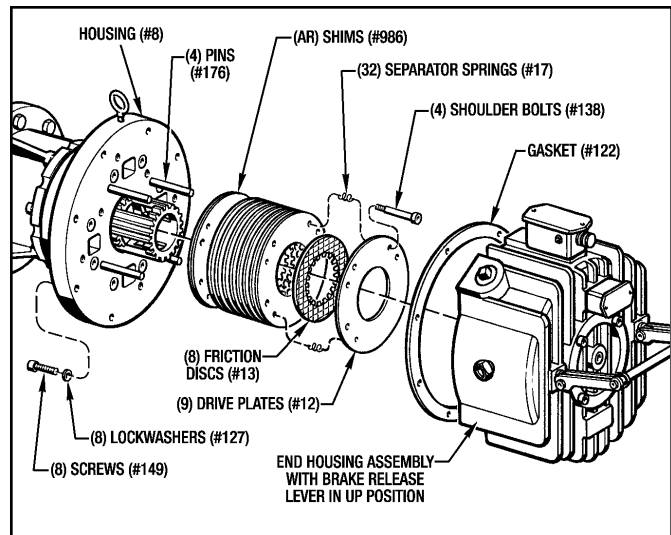

Figure 7.3 - Removing MSB12 Brake Stack
(See Figures 7.3, 7.4 and 8.2)
1. Remove the (8) Screws (#149) and (8) Lockwashers (#127) from the Housing (#8). Pull the End Housing Assembly away from the Housing (#8). Remove the Gasket (#122) and discard it.
2. Unscrew the (4) Shoulder Bolts (#138) from the Housing (#8), but do not pull them out of the Brake Stack. Pull the complete Brake Stack including the (4) Shoulder Bolts (#138) off the (4) Pins (#176) and the Hub (#2) Spline. (See Figure 7.3)